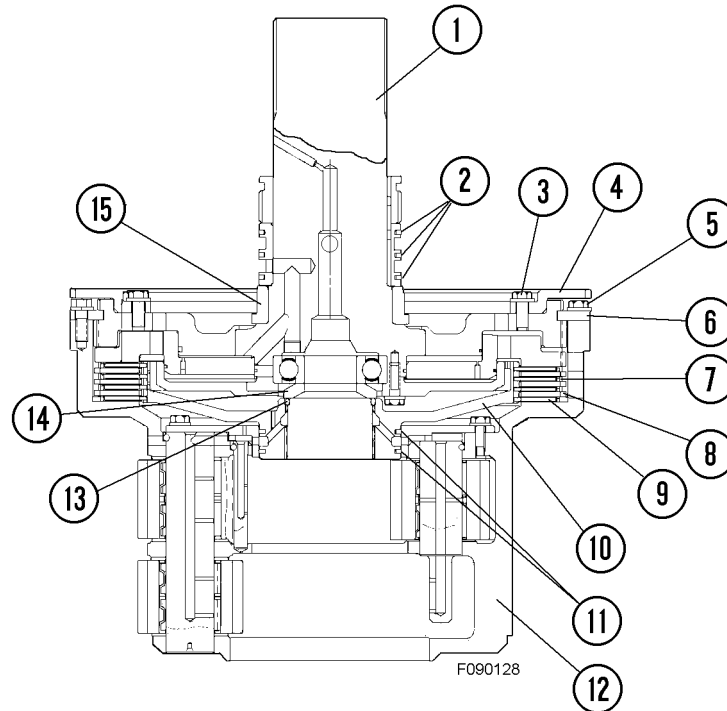

FIGURE 9-34. NUMBER SEVEN CLUTCH ASSEMBLY
15. Install two seal rings (11, Figure 9-34) in the grooves in number seven clutch hub (10). Coat the seal rings with petroleum jelly.
16. Carefully lower the hub into number five carrier assembly (12).